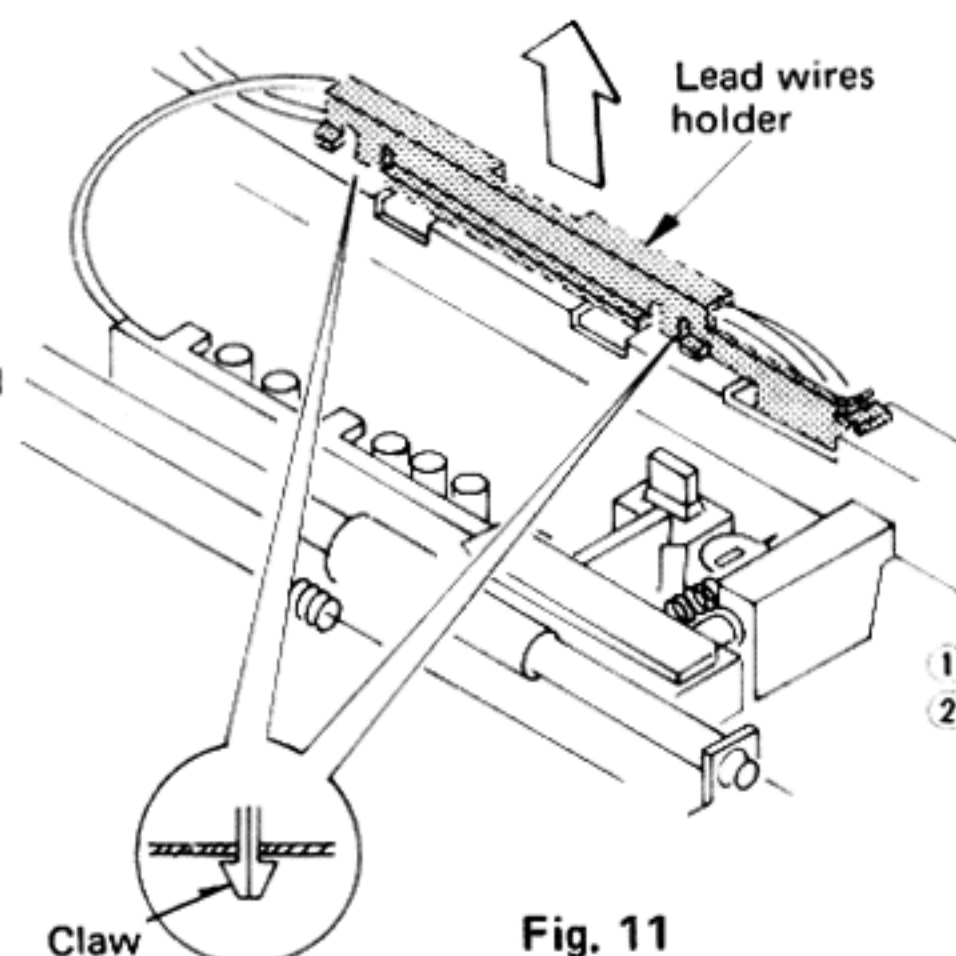

Fig. 11
4. Release the lead wires holder claws and remove the lead wires holder. (Fig. 11)